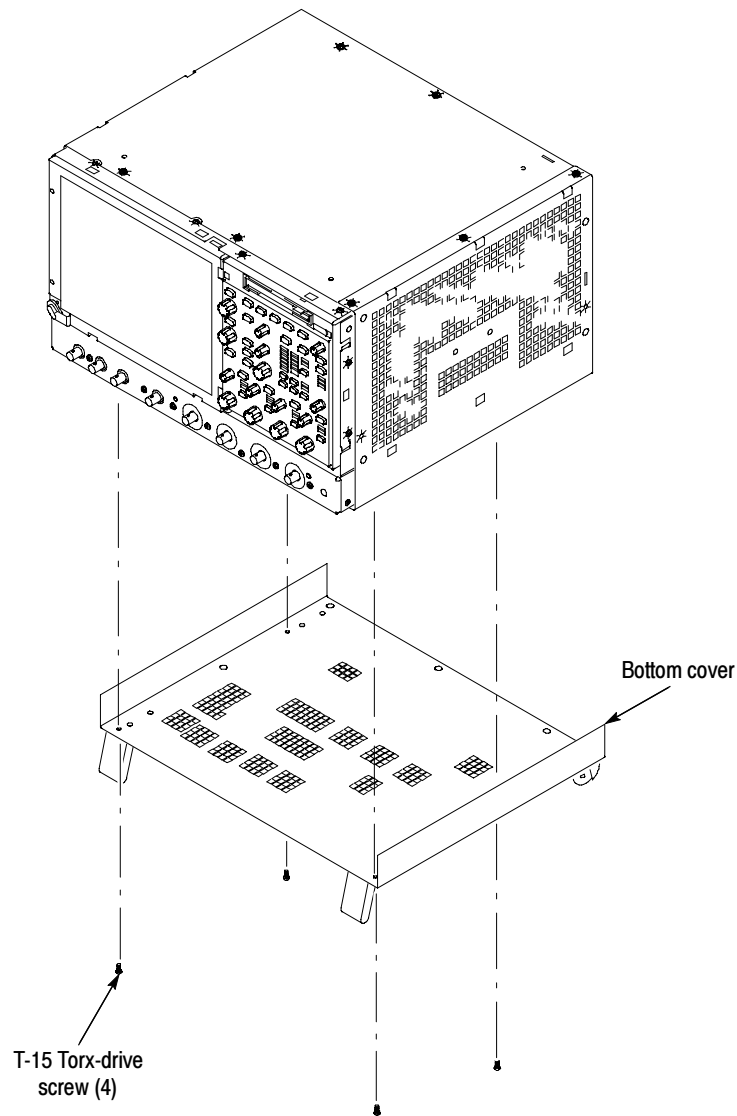

Figure 2: Bottom cover removal
- 7.** Remove the bottom cover (see Figure 2).